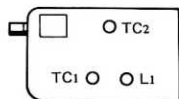
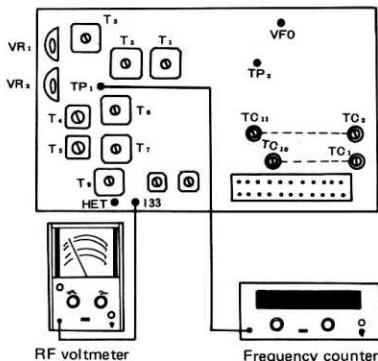

Fig. 14
Fig. 15
Refer to Fig. 14 and Table 4. The dial position "1000" (Table 4) is reached by turning the main dial clockwise and backing it away by one rotation from the stopper point. One rotation corresponds to an interval of 25 kHz. Connect the frequency counter to VFO terminal of HET unit. The location of this terminal is indicated in Fig. 15.
Connect the RF vacuum-tube voltmeter and frequency counter to the HET unit as shown in Fig. 15. With RIT control accurately positioned at "0", the dial at "0" position and VR2 set at its neutral position, adjust according to Table 5.
(1)	144	ON	L2	125.100 MHz
(2)	144	OFF	VR1	125.100 MHz
(3)	145	OFF	L3	126.100 MHz
(4)	Connect RF voltmeter to TP1; adjust T1 to maximize output voltage at 126.100 MHz; and adjust T2 in such a way that the output voltage at 125.100 MHz will come to within 1 dB of the voltage level already obtained at 126.1 MHz; try to minimize the difference between the two voltage levels.
(5)	Adjust T3 to maximize the RF voltage applying to the gate of Q6 (2SK19) or Q7, with VFO set at "500" on the graduated scale. So that the RF voltmeter pointer will not deflect beyond the 1.3-V point at this time, adjust the TC2 on VFO unit (Fig. 14).
With the frequency counter connected to TP2 (Fig. 15), adjust each trimmer for a fixed channel to obtain the target value indicated in Table 6. There are a total of 11 trimmers, TC1 through TC11, inclusive.
- 2) Adjust VR1 (of the GEN unit, Fig. 15) in such a way that turning off the RIT switch will not affect the beat sound.